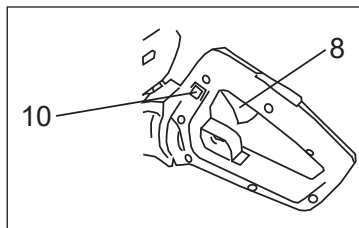

Fig. 14
1. Release the throttle trigger (8) and let the product run at its idle speed for 10 - 15 seconds.
2. Set the ignition switch (10) to its "STOP" (OFF) position (Fig. 14).